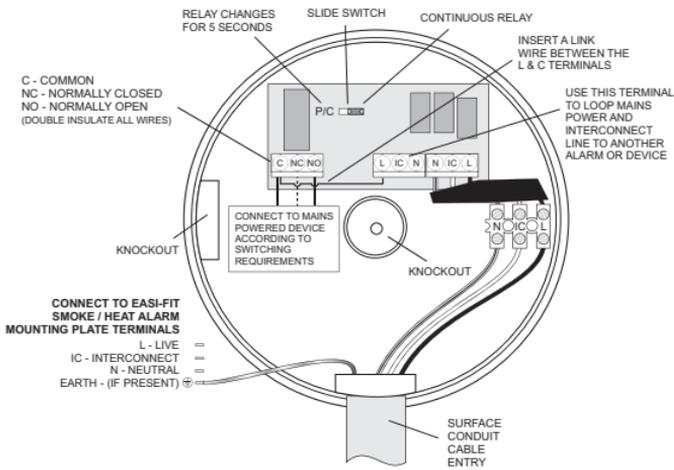
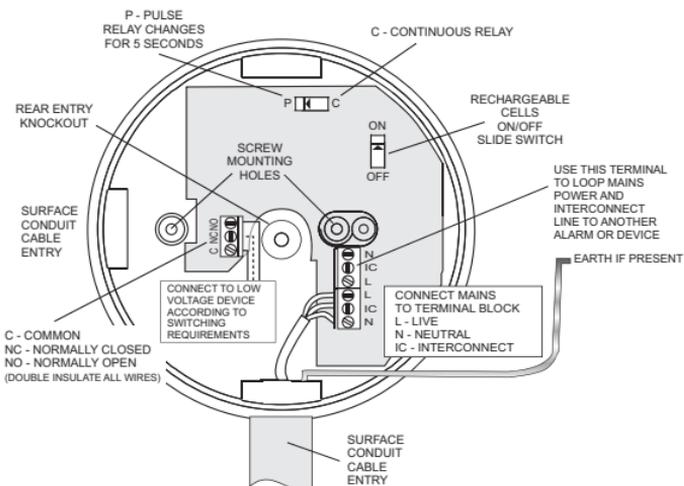

Figure 1a - Ei128R - Wiring details for connecting to a mains powered voltage device
Figure 1b - Ei128RBU - Wiring details for connecting to a low voltage or voltage free device
2. Screw the Relay Base to the ceiling after first removing the required knockout and bringing the house wires through it (see figure 1a for Ei128R & figure 1b for Ei128RBU). If the central knockout is being used, seal around the wires with silicone or similar to prevent air draughts affecting the smoke entering the alarm.
4. Connect the rechargeable cells (Ei128RBU only) by carefully and gently sliding the switch to the “on” position (see figure 1b). This switch must be in the ‘on’ position to ensure correct operation.
2. Screw the Relay Base to the ceiling after first removing the required knockout and bringing the house wires through it (see figures 1a & 1b).
3. Connect the three wires (L - Live, N - Neutral and IC - Interconnect) from the Carbon Monoxide / Smoke / Heat Alarm to the alarm relay module as shown in figures 1a & 1b. The IC - Interconnect wire must be connected even if it is a single alarm installation.
As an Easi-fit Alarm is not being mounted on top of the Relay Base, remove the three cables (for the Easi-fit Alarm connection) from the terminal block and discard (see figures 1a & 1b).
Connect the wires to the required relay contacts for controlling the auxiliary device (the contacts are isolated and are rated at 250VAC, 5 Amps resistive). If momentary (pulse) relay operation is required, carefully and gently slide the yellow switch to the 'P' position with a small screwdriver (see figures 1a & 1b).
If your Relay fails to work after you have carefully read all the instructions, checked that the unit has been installed correctly, and is receiving AC power, then contact Customer Assistance at the nearest address given at the end of this leaflet. If it needs to be returned for repair or replacement, remove the unit and turn off the rechargeable cells with slide switch (*see Figure 1b*). Put the Relay in a padded box and send it to "Customer Assistance and Information" at the nearest address given on the unit or in this leaflet. State the nature of the fault, where the Base was purchased and date of purchase.